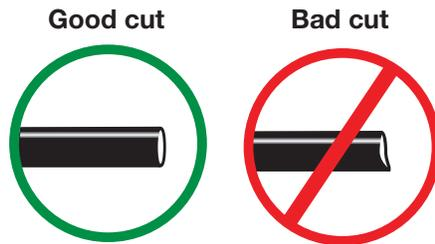

fig. 14
1. Cut the air line in half. Make clean, square cuts with a razor blade or hose cutter (Fig. 14). Do not use scissors or wire cutters.
- a. Check the air line connection by deflating the spring and removing the line by pulling the collar against the fitting and pulling firmly on the air line. Trim 1" (25mm) off the end of the air line. Be sure the cut is clean and square (see Fig. 14). Reinsert the air line into the push-to-connect fitting.